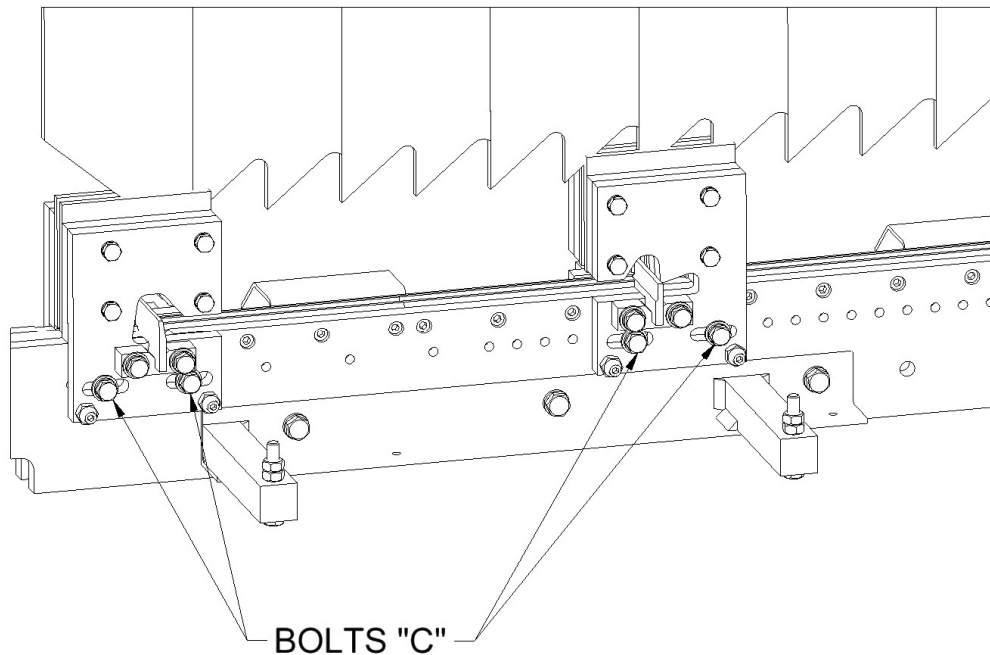

Figure 75: Remove Shear Bolts
27. Remove the two “C” bolts on the exit male and female shear die assemblies located in the slotted holes at the bottom edge of the die holder (Figure 75). Store the shear dies with the profile just removed and set the bolts aside for use when installing the new shear dies.